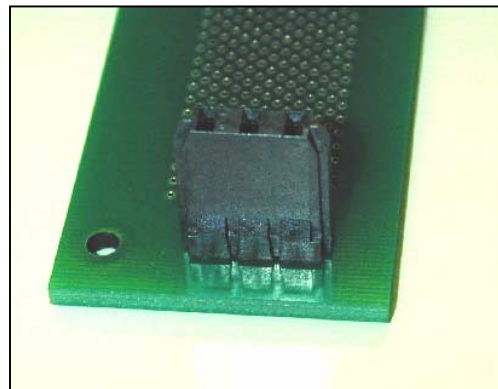

Figure 6
4. Inspect the backplane power assembly for proper seating and to insure that there is no damage. The final assembly should appear as shown in Figure 6.